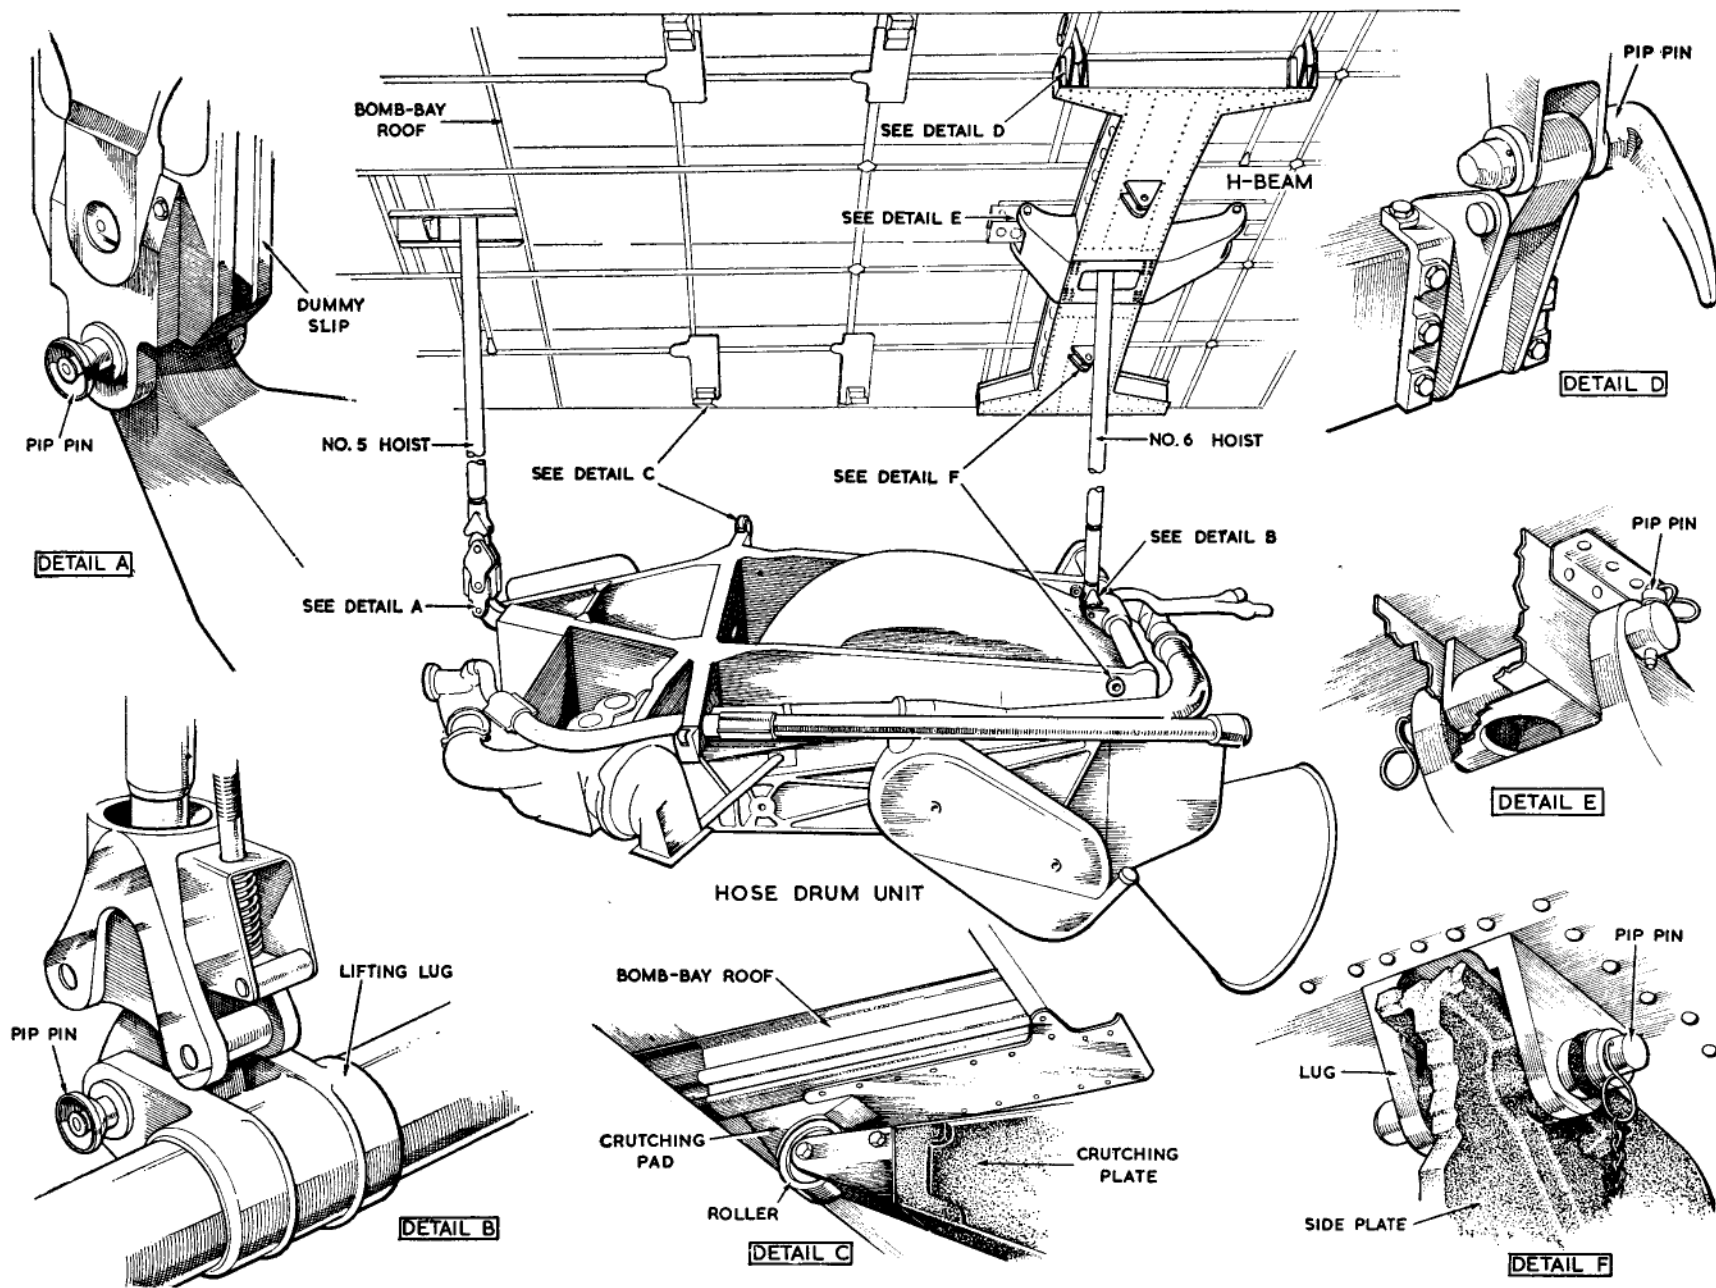

Fig. 4. Fitting the H-beam and hose drum unit
*The method of installing the air turbine pump (item 9) in the starboard transfer tank cell (pre-Mod. 2443) and in the port transfer tank cell is the same as that for No. 3 fuselage tank cells (para. 18). On aircraft post-Mod. 2443, remove the pump mounting plate 73344 Sht. 9 and use the mounting plate 73344 Sht. 7 and stud ring 73344-9.*
- (1) Remove the stiffnuts securing the electric pump (item 4) and carefully lower the pump until access can be gained to the flexible pipe coupling on the pump.
- (2) Disconnect the flexible pipe (item 10) and remove the pump.
- (3) Remove the manhole cover and enter the tank (see Sect. 4, Chap. 2, Appendix 2 for notes on precautions to be taken when working in a fuel tank).
- (4) Disconnect the flexible pipe (item 10) from the T-piece (item 11).
- (5) Fit a blanking-plate (item 3) to the T-piece.
(6) Fit the air turbine pump, adopting the same procedure as for No. 3 fuselage tank cells (para. 18).
**Hose drum unit and H-beam (fig. 4)**
- 21.** (1) Remove No. 5 and No. 6 bomb hoist covers.